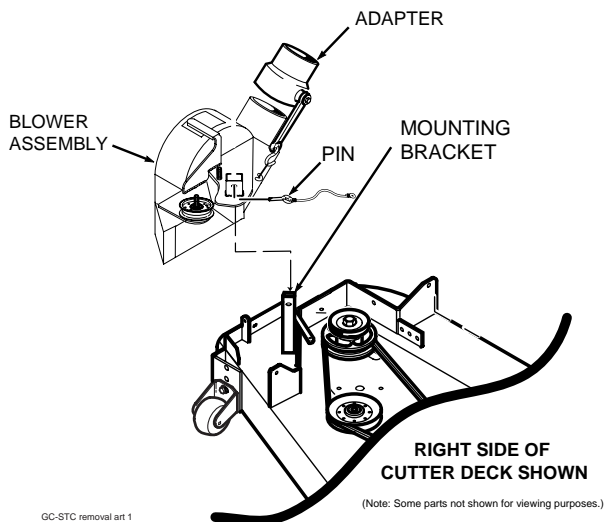

FIGURE 5-1
2. Remove the rubber strap holding the adapter to the blower assembly. See Figure 5-1.
4. Remove the pin holding the blower assembly to the mounting bracket on the cutter deck and remove the blower assembly. See Figure 5-1.